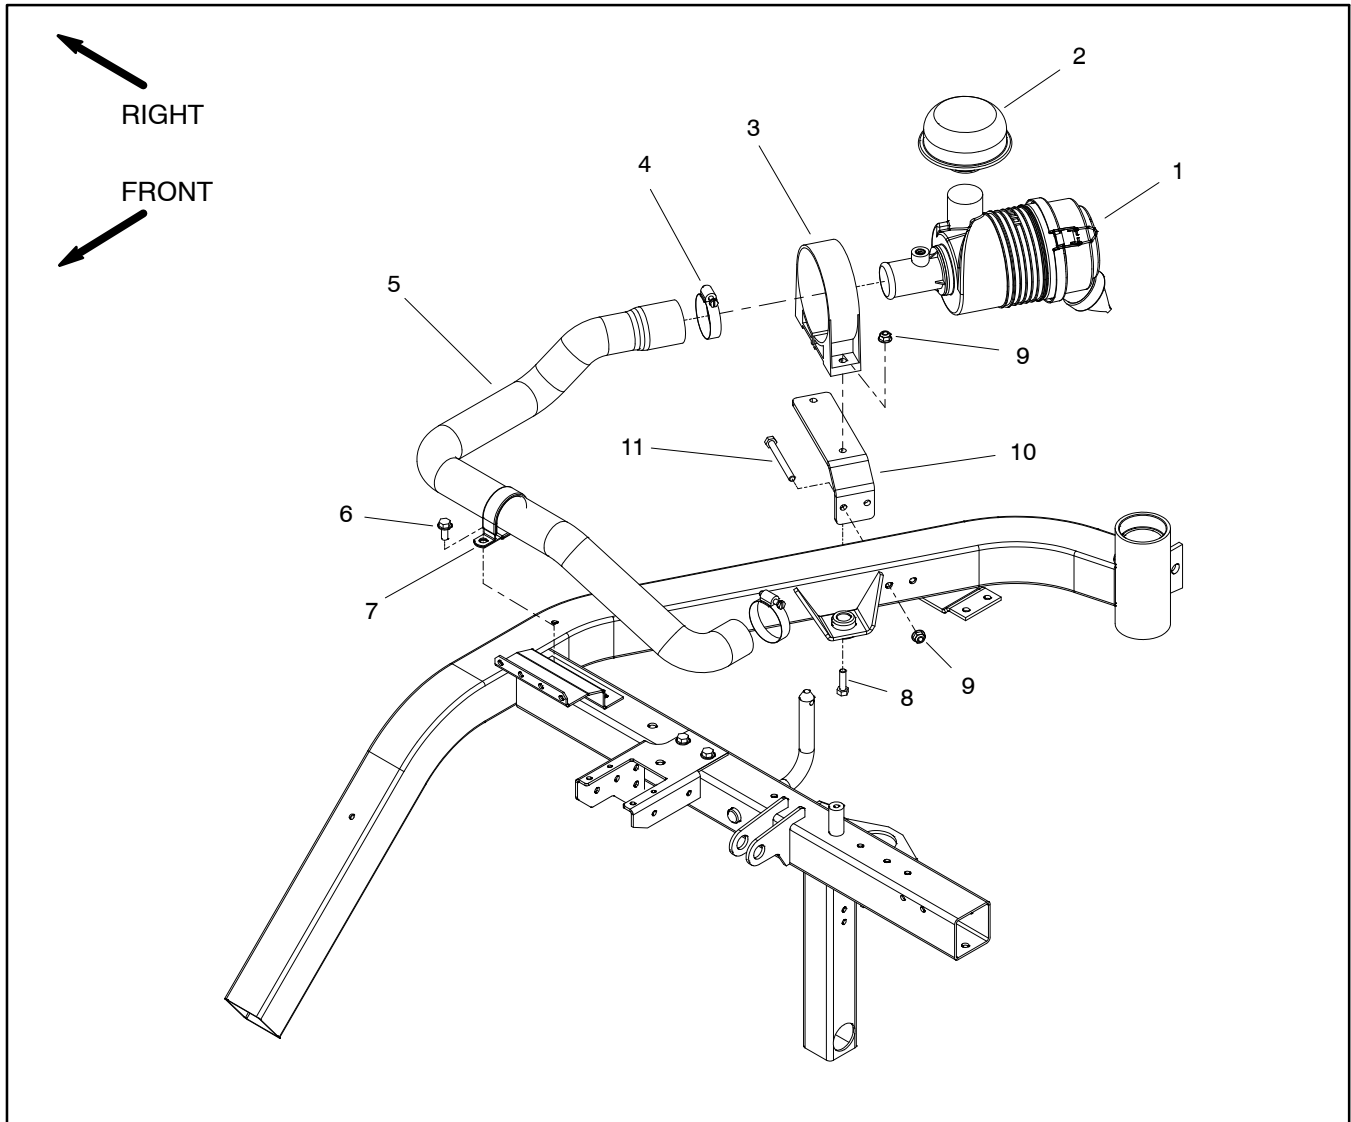

Figure 4
Air Cleaner Removal (Fig. 4)
2. Remove air cleaner components as needed using Figure 4 as a guide.
3. Check air cleaner hose (item 5 in Fig. 4) for damage or wear. Replace hose if damage is found.
Air Cleaner Installation (Fig. 4)
1. Assemble air cleaner system using Figures 4 and 5 as guides.
- C. Make sure that air intake hose (item 5 in Fig. 4) has clearance around it at all points after air cleaner installation is completed.